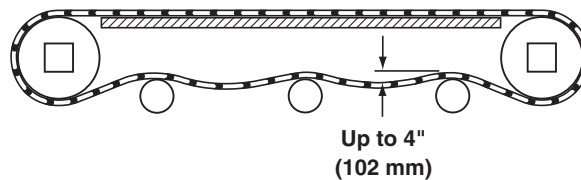

Figure 40
4. Check belt sag by measuring from the top of the return (**Figure 40**). Belt sag should not exceed 4" (102 mm). Follow steps 7 – 9 in the "Belt Installation" section on page 13 to remove slack from the belt.